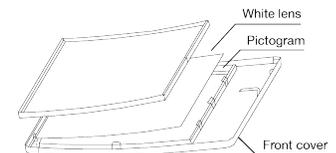

Fig. 2
3. Determine which pictograms will be used. For single sided use the back mounting plate. For double sided use pictogram cover plates (Fig. 2).